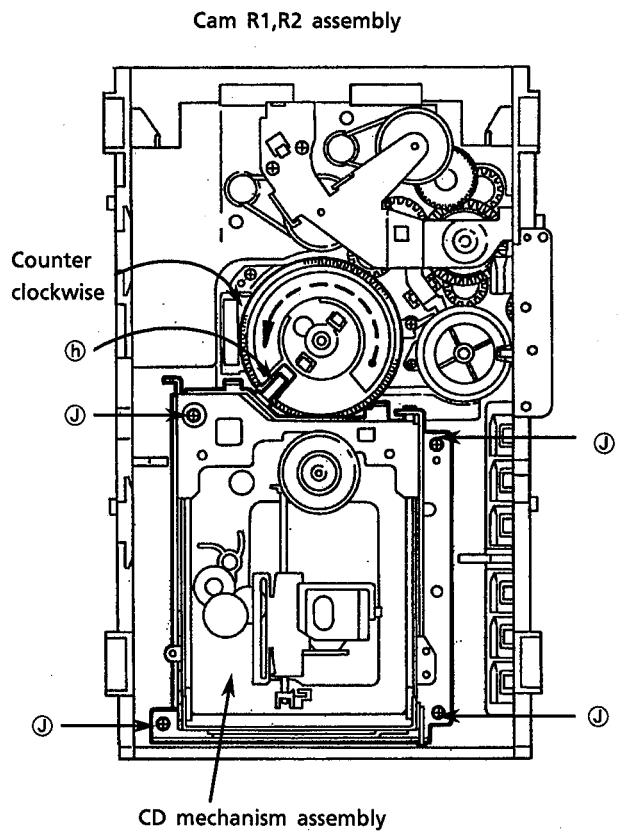

Fig. 36
2. Rotate the Cam R1, R2 ass'y counterclockwise so that CD mech. ass'y's shaft (⑩) is positioned as shown in Fig. 36.
3. Remove 4 screws ⑪ securing CD mech. ass'y. (See Fig. 36.)